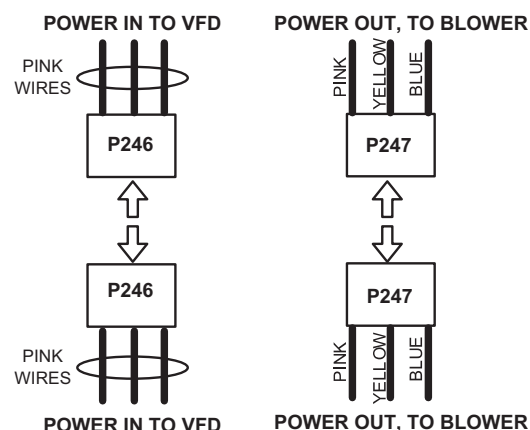

FIGURE 55
- 3 - Disconnect P246 from P246 (power in to VFD) and P247 from P247 (power out to blower). See FIGURE 55.